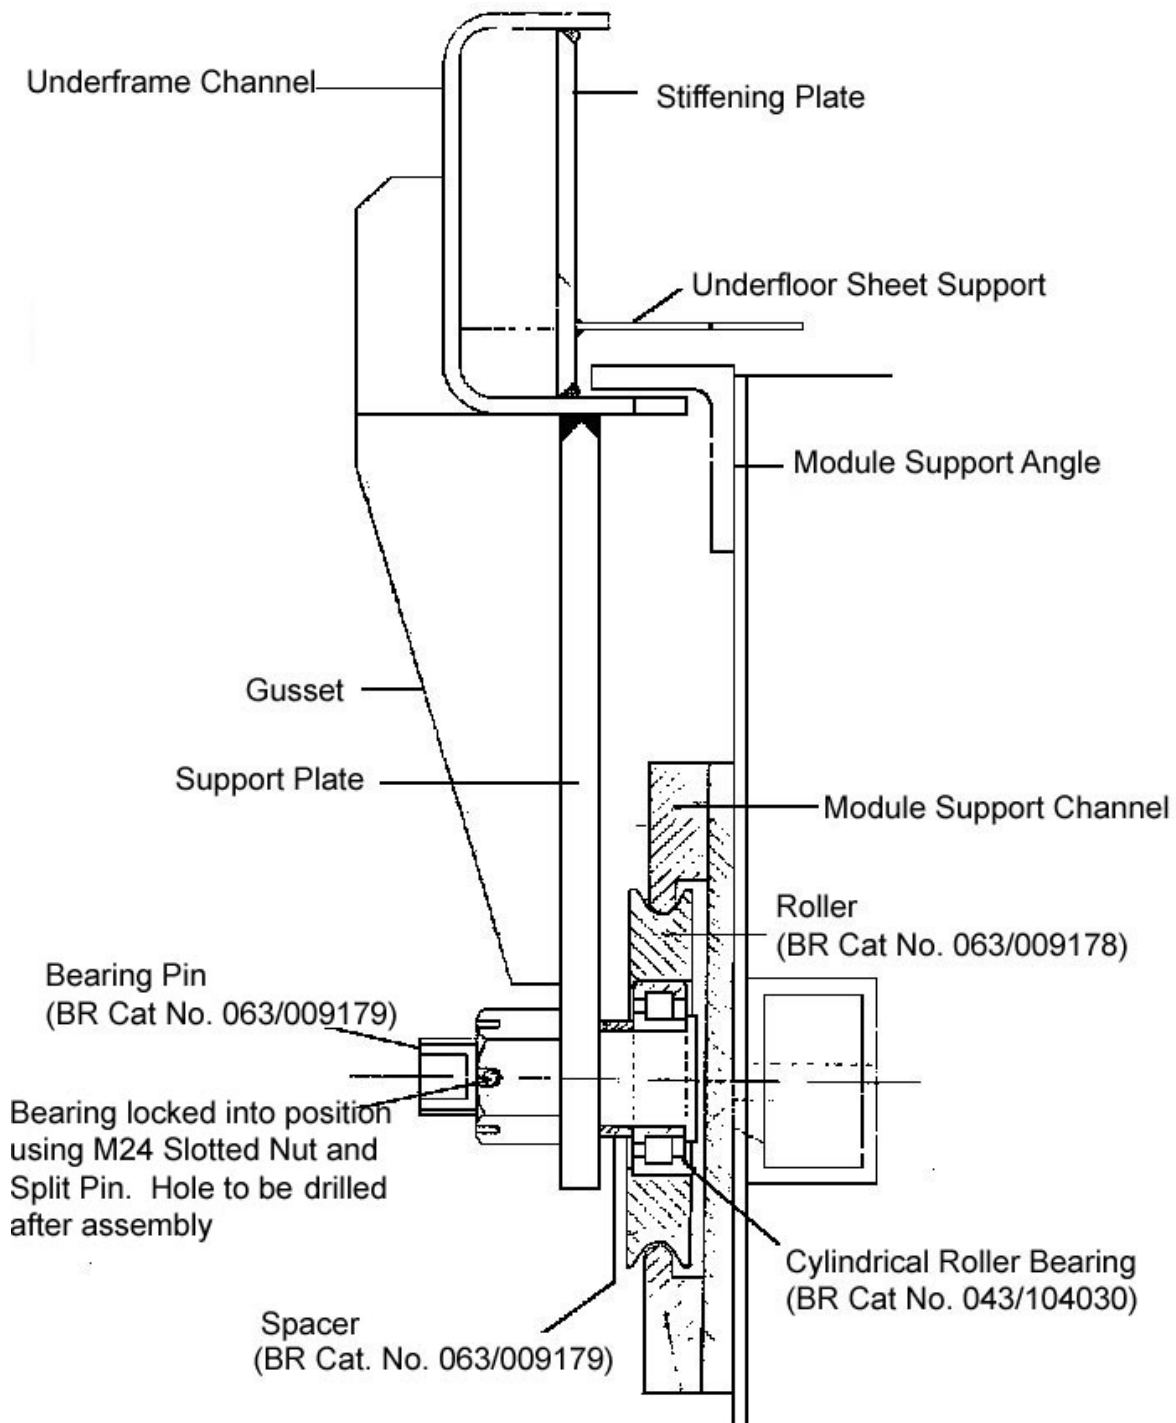

Figure 2: Battery Module Rollers and Supports
- 1.2.4 Examine the rollers (see Figure 2) as follows: